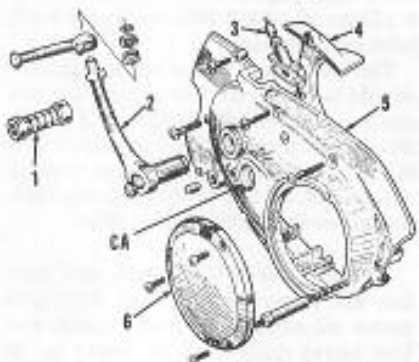
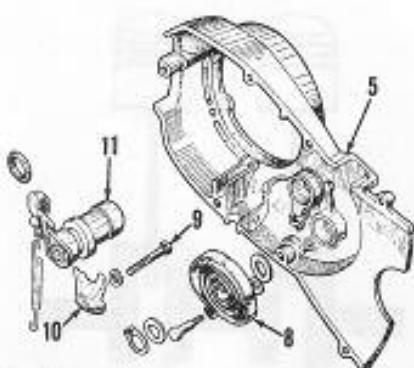

Fig. HN8-11—Crankcase cover and related parts.
Fig. HN8-12—Crankcase cover and related parts. (View reversed from Fig. HN8-11).
bars via a cable (3—Fig. HN8-11). Clutch lever should have 20-30mm (13/16-1 3/16 inch) free play. If not, loosen capscrew (9—Fig. HN8-12) and turn adjuster (11) in or out as required to provide proper free play of lever; then, retighten capscrew (9). The location of the clutch adjuster is shown at CA—Fig. HN8-11.